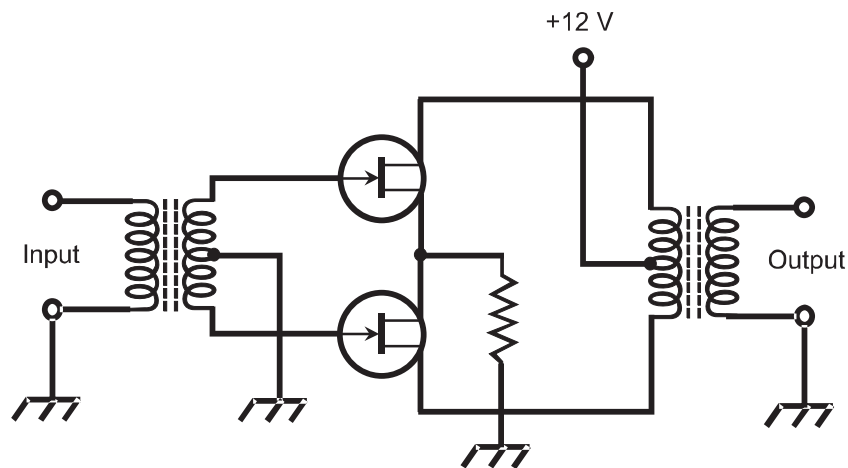

Fig. Exam-5. Illustration for Final Exam Questions 57 through 59.
57. In Fig. Exam-5, what are the devices symbolized by the circles with the lines and arrows inside?
58. What type of circuit is shown by the diagram in Fig. Exam-5?
59. What would happen if the resistor in the circuit of Fig. Exam-5 were to open up?